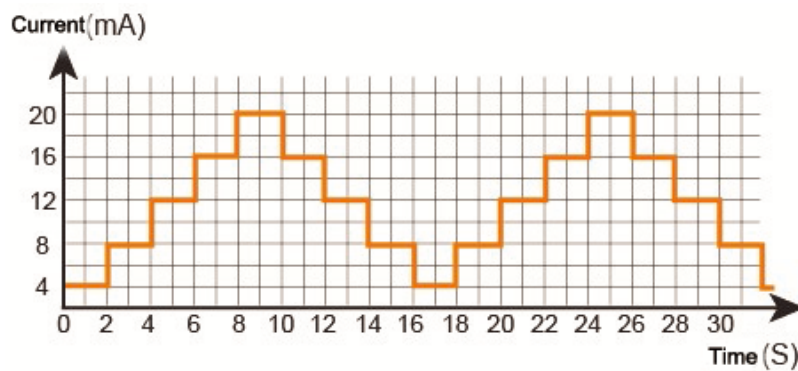

Figure 26 Automatic step customize output points
d. Custom mode: In the custom mode, the user can manually edit each step point. Up to 16 step points can be added, and each step point cannot exceed the output range of the current output signal. After selecting the custom step mode, click the "point list" menu item to enter the set point editing interface (Figure 26 auto step custom output point). In